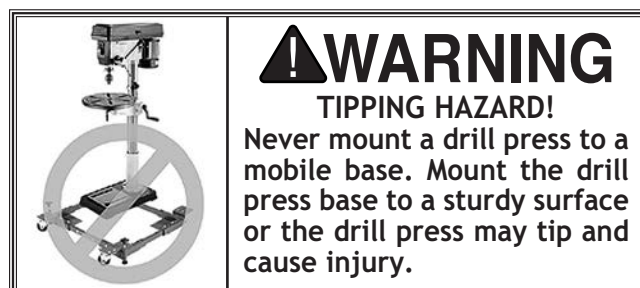

Figure 6. Secure base to floor.
- b. Mark and drill the floor, and install the concrete anchor bolts (not included) (see Figure 6).